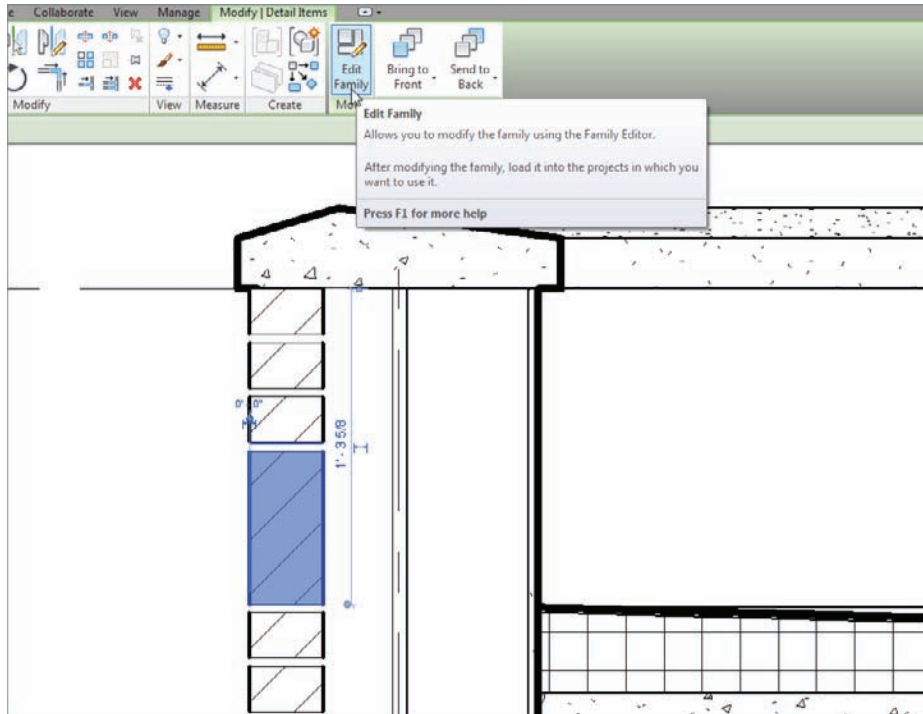

FIGURE 12.16 Open the family for editing after selecting the detail component.
3. On the Modify | Detail Items tab, click the Edit Family button, as shown near the top of Figure 12.16.